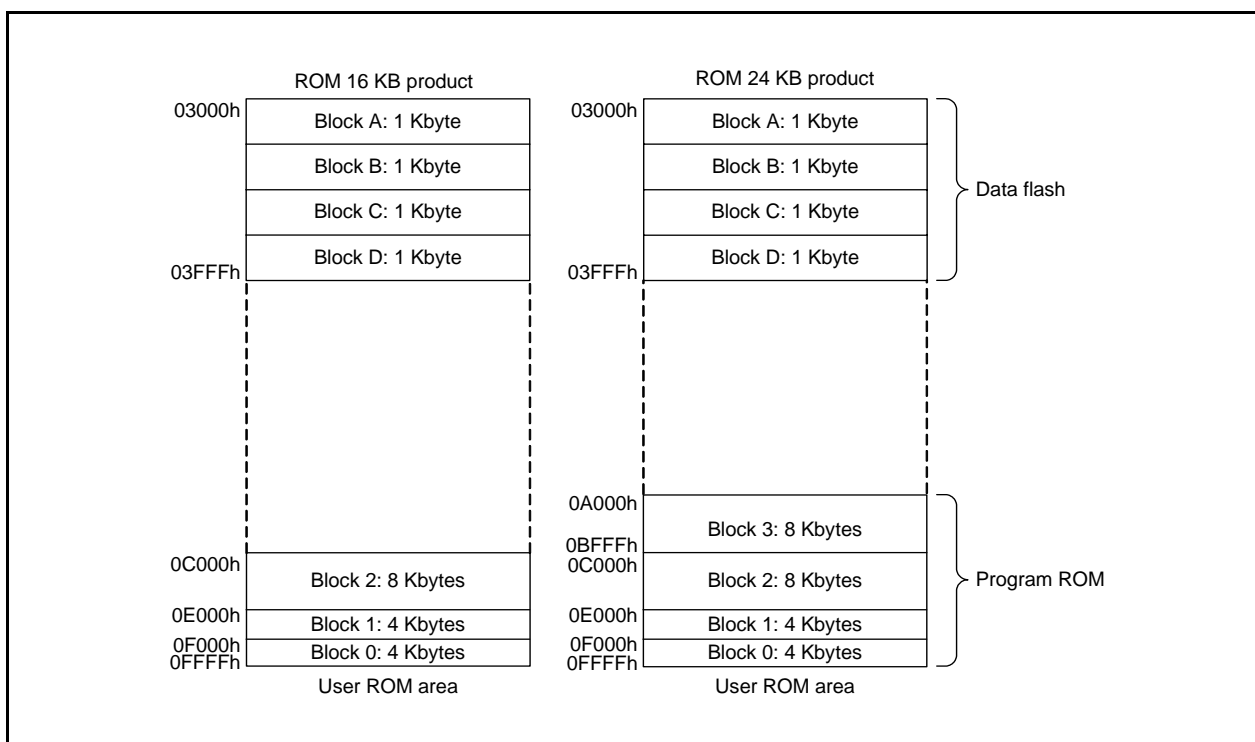

Figure 34.1 R8C/38M Group Flash Memory Block Diagram (1)
| Division of erase blocks                   |                                    | Refer to Figures 34.1 and 34.2 .                                                                                 |
- The number of blocks and block division vary with the MCU. Refer to **Figures 34.1 and 34.2 R8C/38M Group Flash Memory Block Diagram** for details.
Figures 34.1 and 34.2 show the R8C/38M Group Flash Memory Block Diagrams.